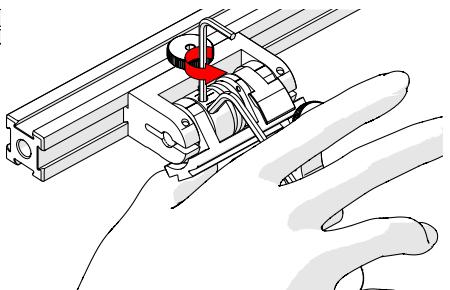

*Fig. 208 - Unlatched position*
3. Insert the short arm of a 3 mm hex wrench into the 3 mm slot (Fig. 208).